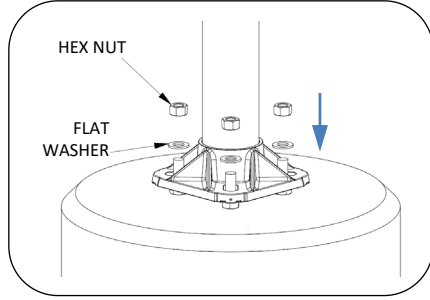

Fig. 2 – Install pole
2. Install washers and hex nut as shown in Fig. 2.